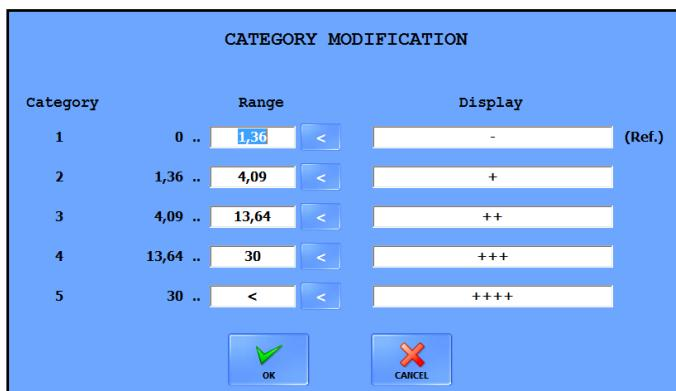

Fig. 9: The Category modification dialog box
1. Double-click on the particle class row that you wish to modify to display the **Category modification** dialog box (see Fig. 9).